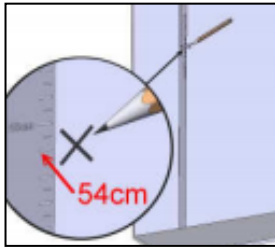

Figure 1
STEP 1: Measure and place “X” marks at 21 ¼” and 29 ½” (54.0 cm and 75.0 cm) on the wall. Make sure they are vertical from the floor (Figure 1).